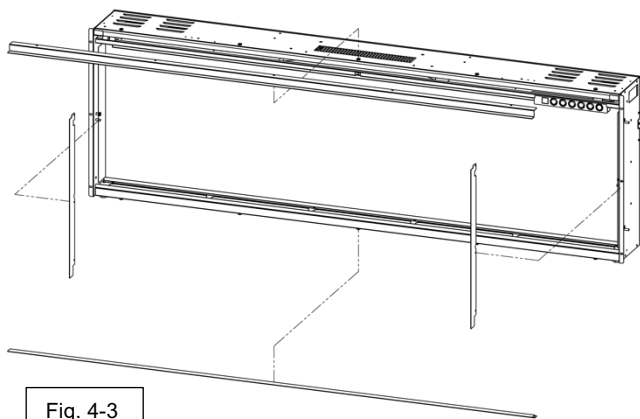
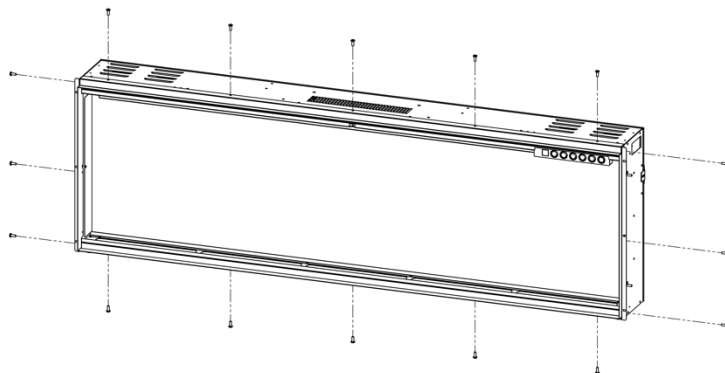

Fig. 4-3
Fig. 4-4
- Install the Built-In Frame and attach with the screws previously removed (Fig. 4-3 and Fig. 4-4).